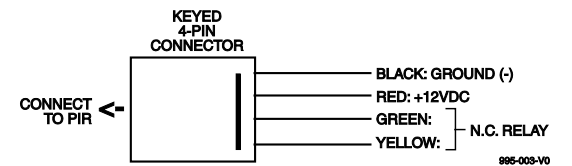

Figure 3. Keyed 4-pin Wiring Connector
- Wiring (from the control, etc.) must be brought into the electrical box and spliced to the leads on the connector that has been supplied (see Figure 3).